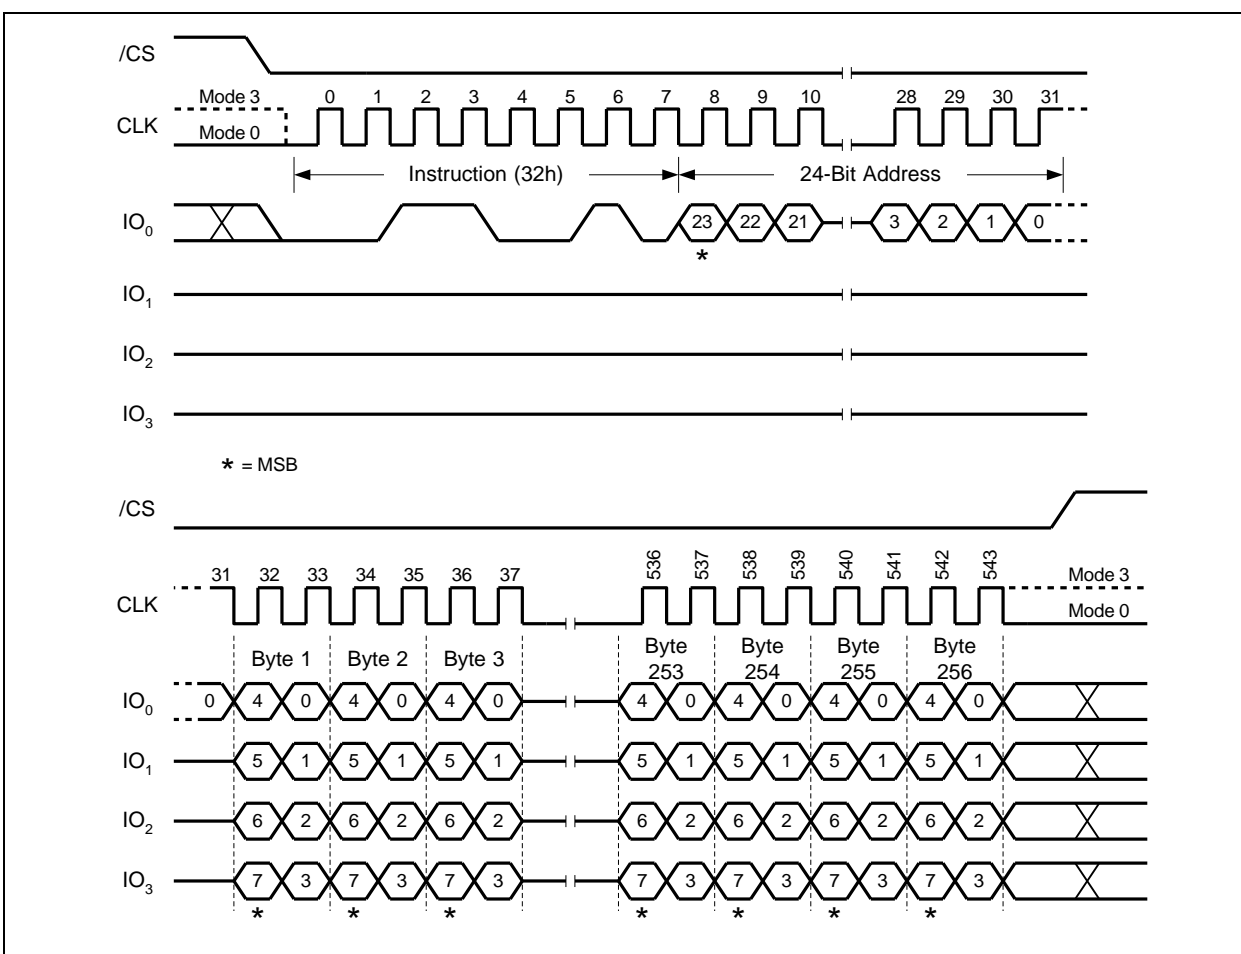

Figure 30. Quad Input Page Program Instruction (SPI Mode only)
To use Quad Page Program the Quad Enable (QE) bit in Status Register-2 must be set to 1. A Write Enable Instruction must be executed before the device will accept the Quad Page Program Instruction (Status Register-1, WEL=1). The Instruction is initiated by driving the /CS pin low then shifting the Instruction code "32h" followed by a 24-bit address (A23-A0) and at least one data byte, into the IO pins. The /CS pin must be held low for the entire length of the Instruction while data is being sent to the device. All other functions of Quad Page Program are identical to standard Page Program. The Quad Page Program Instruction sequence is shown in Figure 30.